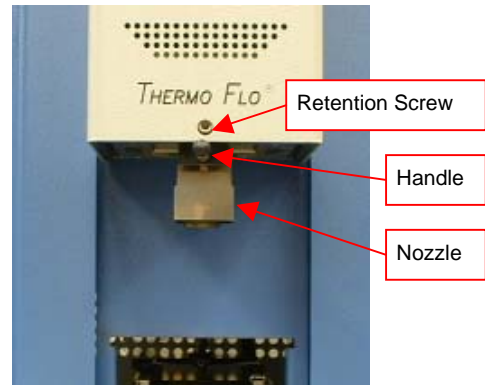

Figure 3b
- d. Inserting/changing nozzle. (Figure 3b)